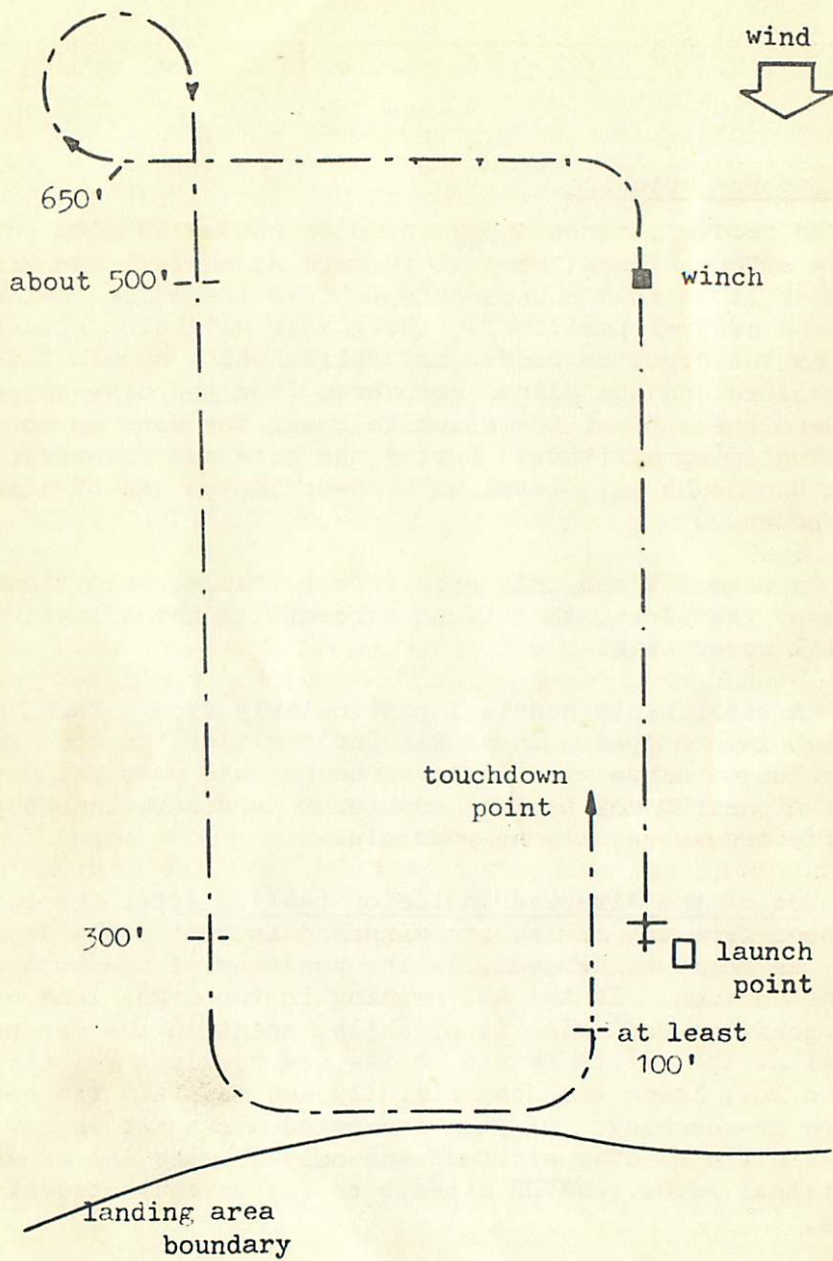

Fig 6.
1. Fig 6 shows the normal layout of a Glider Flight operating on an airfield. The dotted line indicates a model circuit flown by a glider from the release point to the point where it lands.
2. After release at the top of the launch, the pilot must take up the normal gliding attitude and fly straight ahead for a few seconds to allow the speed settle down. He should then turn  $90^{\circ}$  on to the crosswind leg. Before turning onto the downwind leg check the indicated height, if at 650 feet or more, turn through 270 degrees onto the downwind leg. See Fig 6.